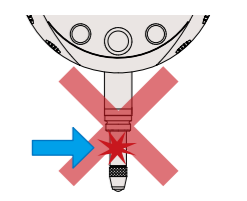

Fig. 2
1. Do not move the spindle rapidly nor apply force in the transverse direction, otherwise operation and accuracy may be adversely affected. (Fig. 2)